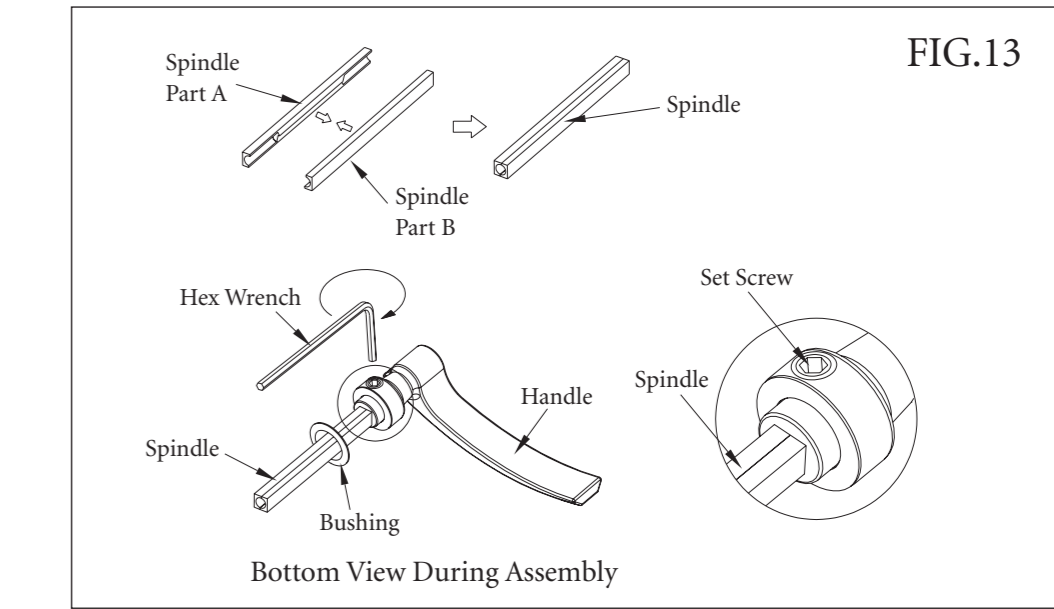

FIG.13
- Assemble handle spindle. (See Fig.13)